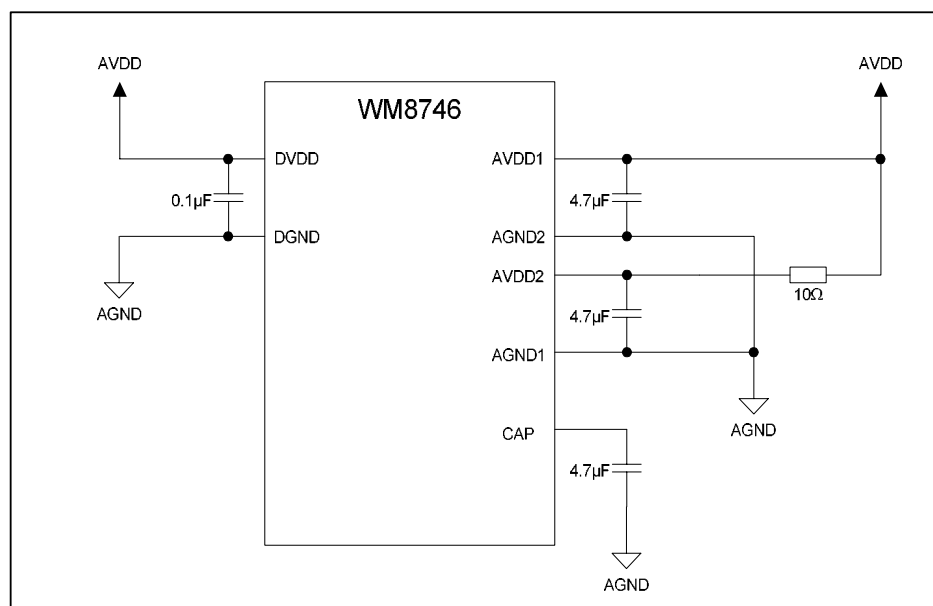

Figure 26 Decoupling Example 2
4.7μF ceramic capacitors are becoming available in 0805 package with Y5V dielectric. Whilst they do not have quite as good performance as 10μF, it is possible to use them instead. Their capacitance goes down significantly with supply voltage, but at 3.3V (VDD) and 1.65V (CAP pin), the drop is not too great, if a 10V-rated part is used. As they are already in a low-inductance package, the 0.1μF is no longer necessary. See Figure 26 for an example.